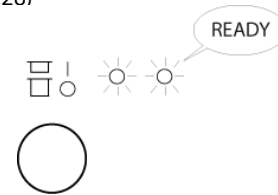

Fig.28
- After water heating process is finished and the temperature is reached, indicator light is visualized on position "E" machine READY to use. (Fig.28)